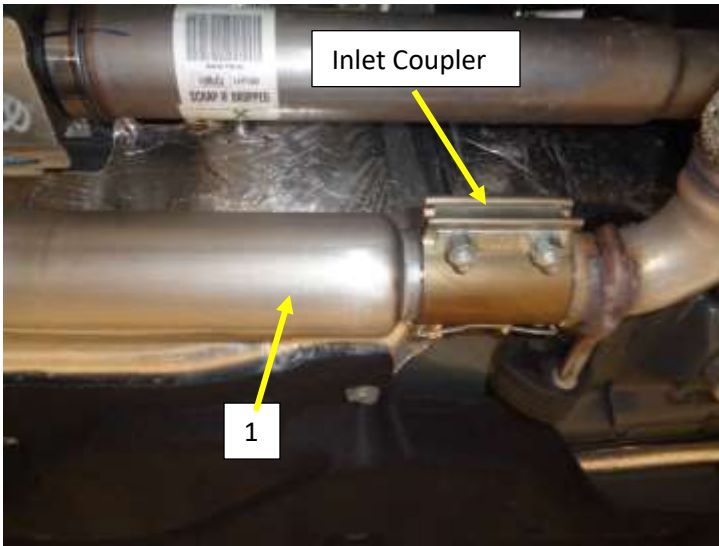

Figure 3
1. Install the reduced end of the Flowmaster Y-Pipe (1) into the coupler at the flex joint. **Fig.3**